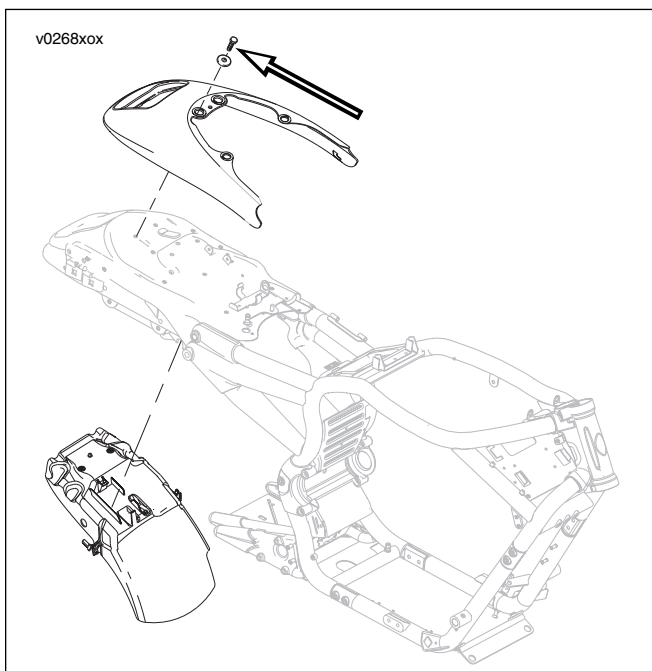

Figure 2-179. Fender Mounting Fasteners
5. See Figure 2-179. Remove four fasteners and washers from fender. Remove fender by sliding back and lifting upward.